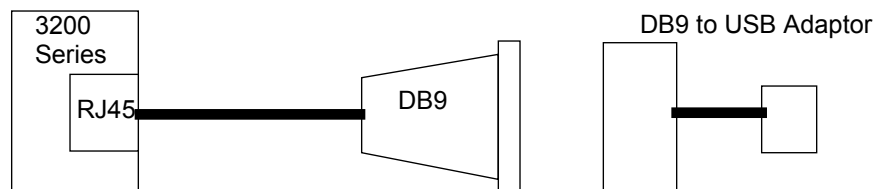

Figure 3.2 Conceptual View of a Serial Connection from the 3200 Series Gateway to a Computer
2. If your computer's serial port features a DB9 connector, use the DB9 to RJ-45 adapter supplied with your 3200 series gateway. If your computer's serial port features a USB connector, you will need to provide a USB to DB9 adaptor. Refer to figure 3.2 on page 56.